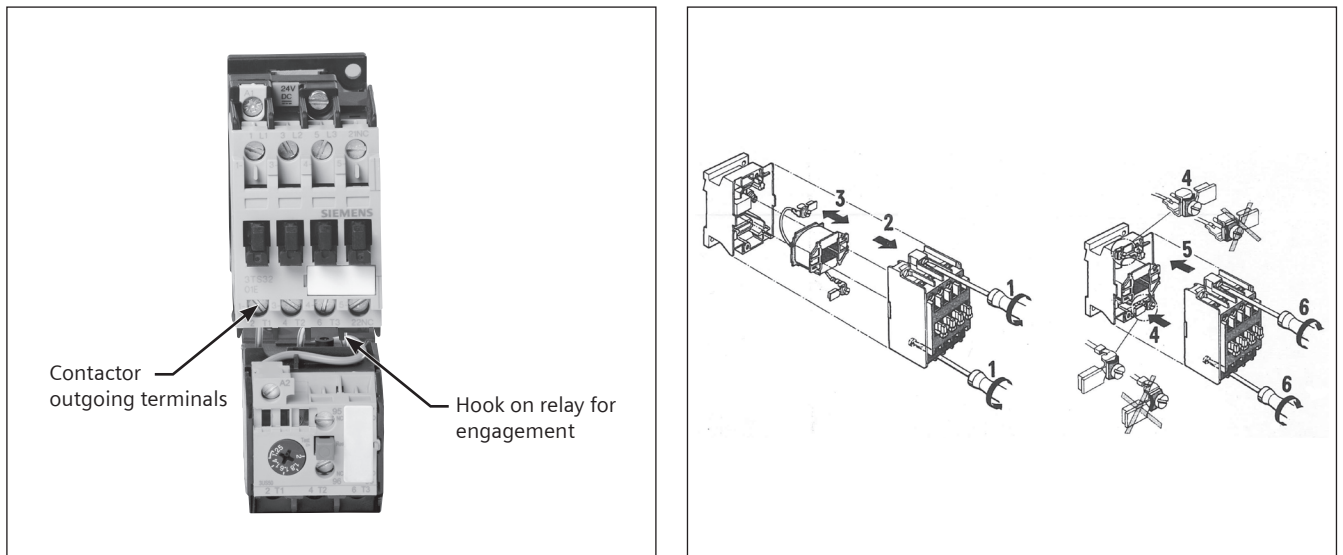

Fig. 3: Contactor – Relay Connection
- Replacement of Overload Relay (Refer Fig. 3):
5. Follow instructions given in Fig. 3 for removal of relay.